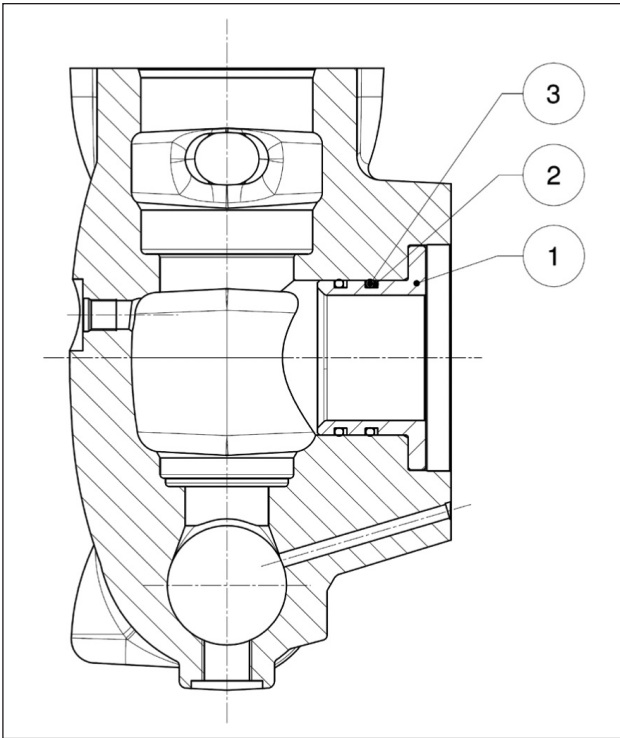
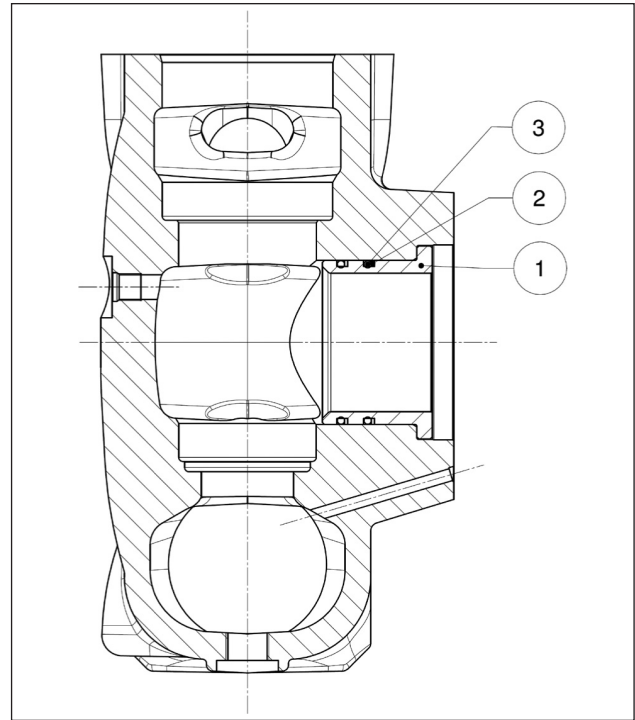

Fig. 148
Fig. 149
The machined head must be assembled by driving in the bushes (pos. ①) together with the anti-extrusion rings (pos. ②) and O-rings (pos. ③) as shown in Fig. 148 for versions with piston \varnothing 40-45-50 and in Fig. 149 for versions with piston \varnothing 55-60-65: